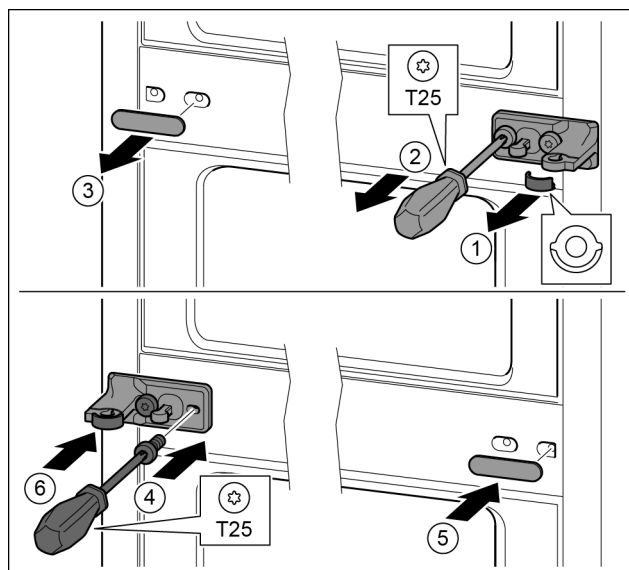

Fig. 27
- ▶ Remove the washer. *Fig. 27 (1)*
- ▶ Remove the screws with the T25 screwdriver. *Fig. 27 (2)*
- ▶ Remove the cover carefully. *Fig. 27 (3)*
- ▶ Screw the bearing bracket and the film rotated 180° firmly onto the other side. *Fig. 27 (4)*
- ▶ Attach the cover rotated 180° onto the other side. *Fig. 27 (5)*
- ▶ Push the washer in from the front. *Fig. 27 (6)*